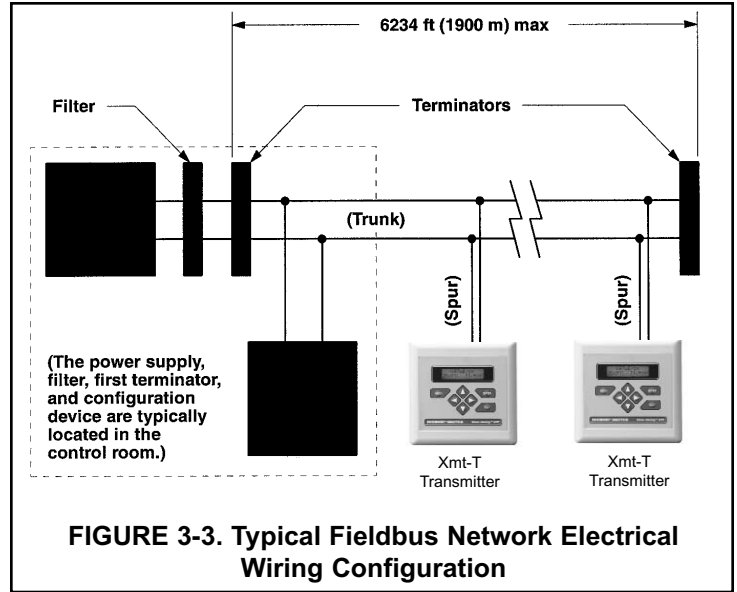
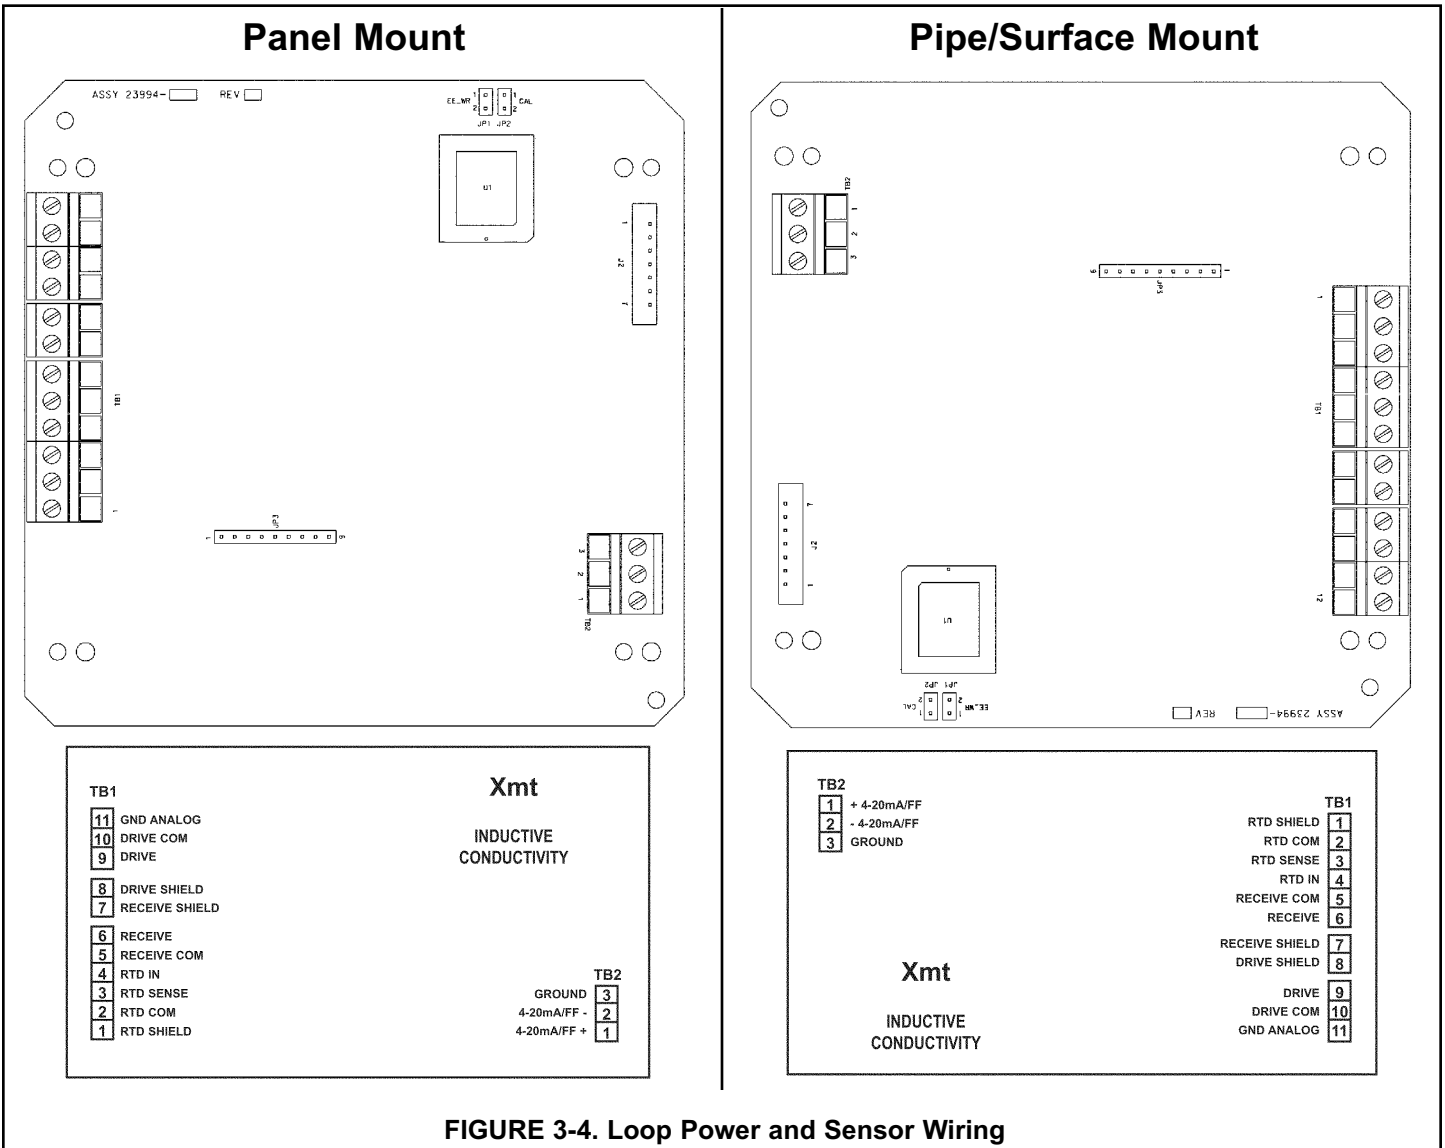

FIGURE 3-3. Typical Fieldbus Network Electrical Wiring Configuration
FIGURE 3-4. Loop Power and Sensor Wiring
3.2.1 Power Supply Wiring. For general purpose areas, wire power as shown in Figure 3-4. For hazardous areas, please see hazardous area installation drawings. Refer to Figure 3-3 and Figure 3-4.
Keep sensor wiring separate from power wiring. For best EMI/RFI protection, use shielded output signal cable in an earth-grounded metal conduit. See Figure 3-4. Refer to the Instruction Sheet provided with each sensor for specific wiring instructions.
The sensor can be wired to the analyzer through a remote junction box (PN 23550-00). Wire the extension cable and sensor cable point-to-point. See Figure 3-4. Refer to the sensor instruction manual for more details.